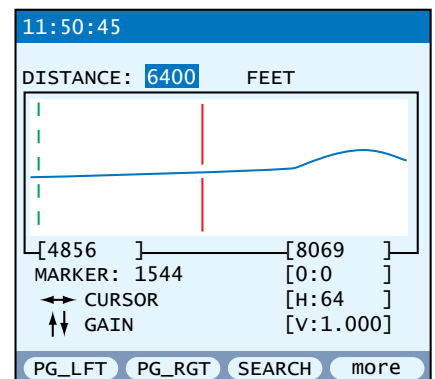
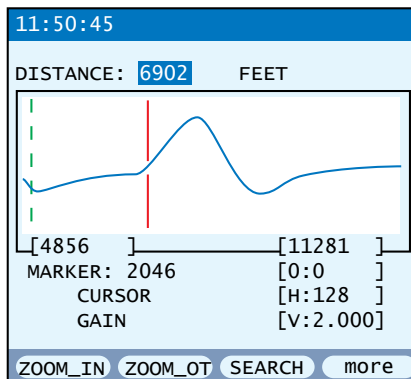

Figure 20 4856 to 8069 ft View
Figure 21 4856 to 11281 ft View
**Note:** To make the fault more visible, press ▲ once to increase the Gain. Note in Figure 21, it is 2.000, where it was 1.000 in Figure 20.